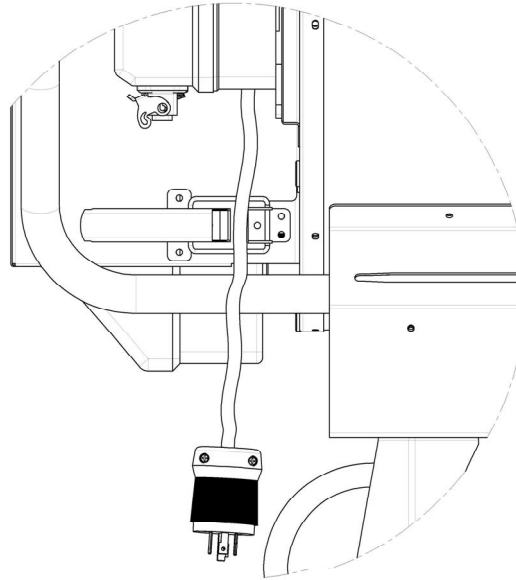
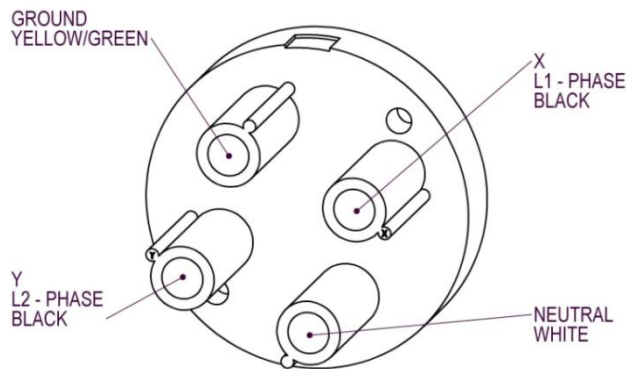

Fig. 3.10.1
Fig. 3.10.2
- Connect the heater to an electrical power source with appropriate power, voltage and frequency ratings, using the supplied plug (Fig. 3.10.1). The plug is factory wired as shown below (Fig. 3.10.2)